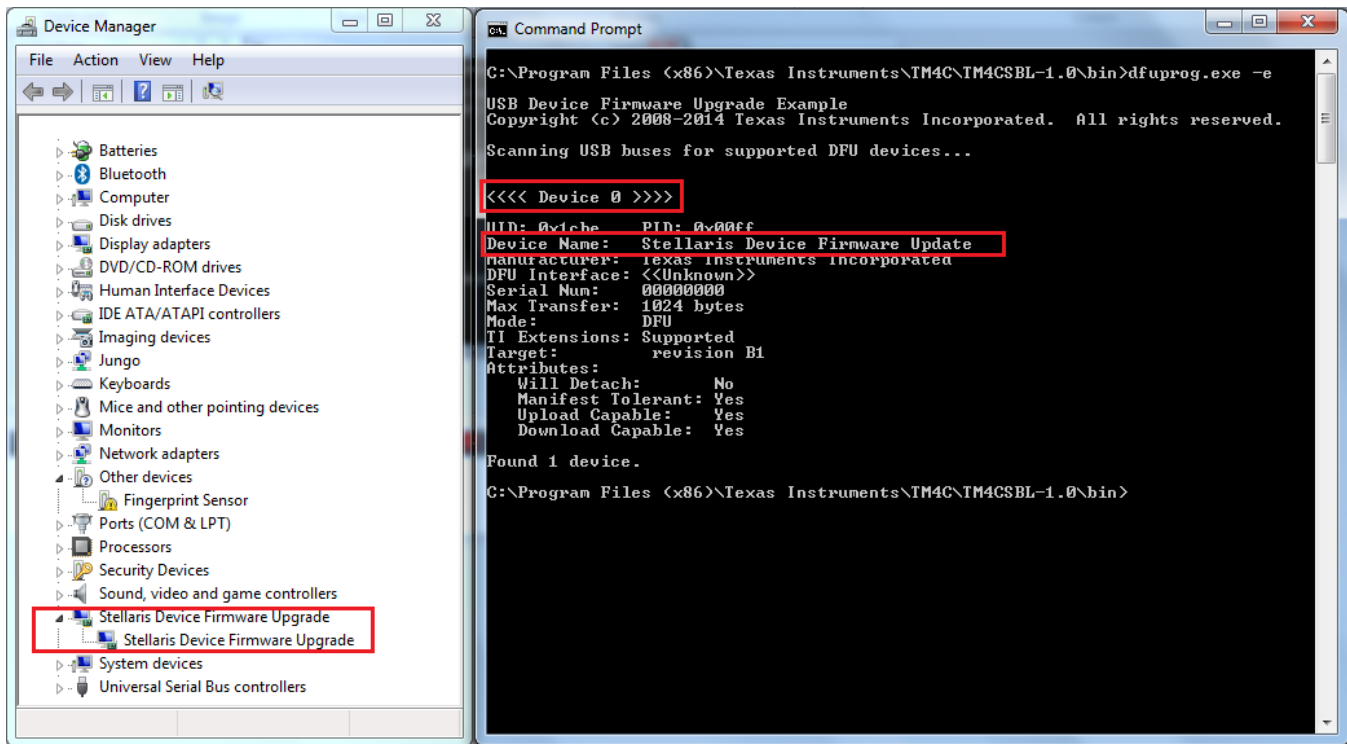

Figure 30. Getting the DFU Device Number
2. Open a command window and go to the installation directory folder where the “dfuprog.exe” is kept. Run the command “dfuprog.exe -e” to show all the USB devices connected to PC host as the DFU class device. Since there may be multiple DFU class devices, make a note of the device number of the programmer board, as shown in Figure 30.